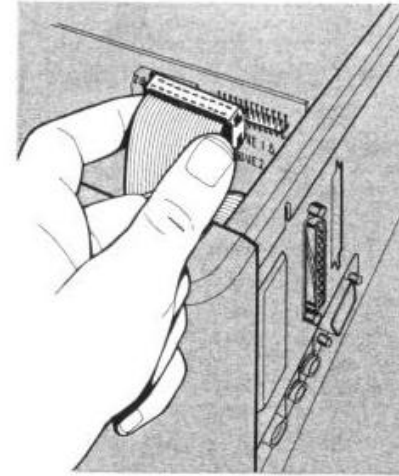

Figure 2-8. Connecting Cable to Disk Controller Card
10. Plug the other end of this cable assembly into the disk controller card socket referenced in step 5, as illustrated in Figure 2-8.